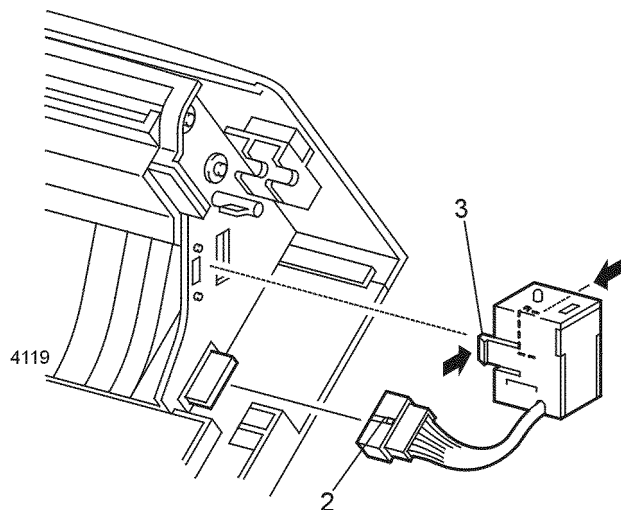

Figure 1 Exit Gate Solenoid
2. Press the locking tab and disconnect P/J519 from the Rear Cover (Figure 1).
3. Press the locking tab on the Solenoid Assembly and remove (Figure 1).